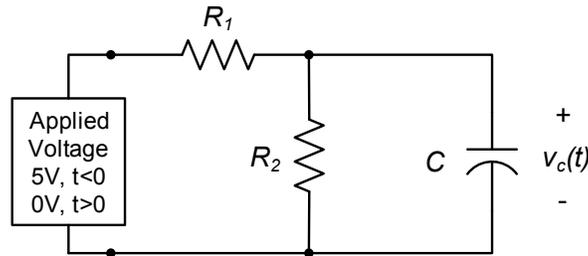

Figure 1. Basic RC circuit.
The basic RC circuit being used in this assignment is shown in Figure 1. We will be interested primarily in the measured vs. expected behavior of the capacitor voltage, $v_c(t)$. Initially, the voltage applied to the RC circuit is 5V. We obtain the natural response of the RC circuit by changing the applied voltage to 0V instantaneously at time $t = 0$. The natural response of the capacitor voltage is $v_c(t)$, $t > 0$.
The way in which we reduce the applied voltage in Figure 1 from 5V to 0V can have an effect on the circuit's natural response. In this lab assignment, we will use two different approaches to the switching process involved in changing the applied voltage:
- DATA** a. Construct the circuit shown in Figure 1, using $R_1=1\text{k}\Omega$, $R_2=2.2\text{k}\Omega$, and $C = 22\mu\text{F}$. (As always, measure the actual resistance value; measure the capacitance value if you have the appropriated instrument – some DMMs have a capacitance meter – otherwise, assume that the nominal capacitance value is correct.)
- b. Still using the circuit shown in Figure 1, (with $R_1=1\text{k}\Omega$, $R_2=2.2\text{k}\Omega$, and $C = 22\mu\text{F}$ as in part a), use a square wave with an amplitude of 2.5V and an offset of 2.5V to create a square wave that oscillates between 0V and 5V. We will be using this square wave to implement a transition between 5V and 0V; use a very low frequency, 1Hz or so¹.